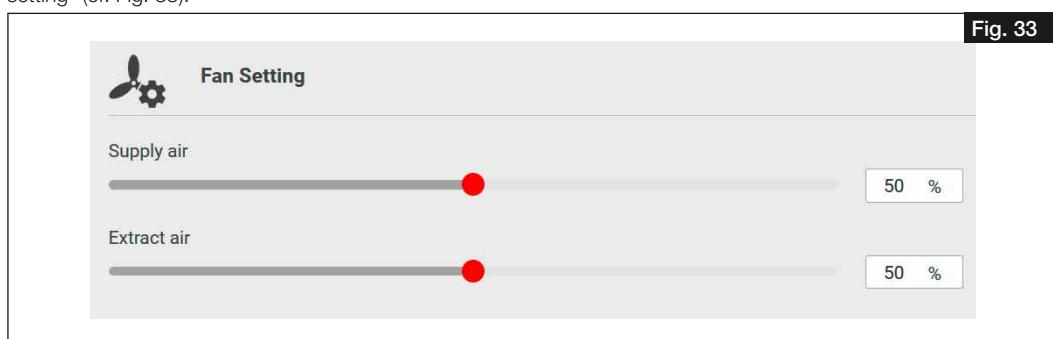

Fig. 33
- Enter the fan powers for supply and extract air according to the determined values for nominal ventilation under “Fan setting” (cf. Fig. 33).